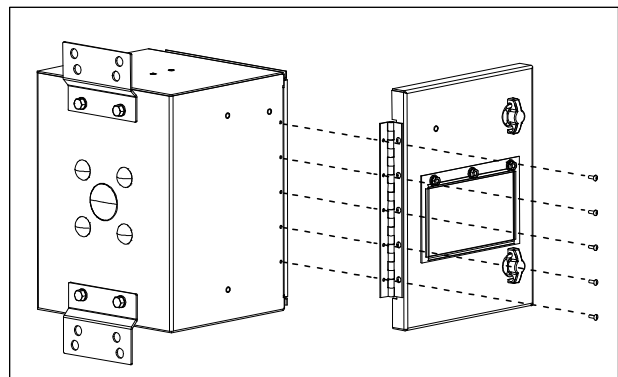

Figure 2 Remove CUBE Door
1. Drill out the rivets that hole the door onto the CUBE. Remove the door (Figure 2).